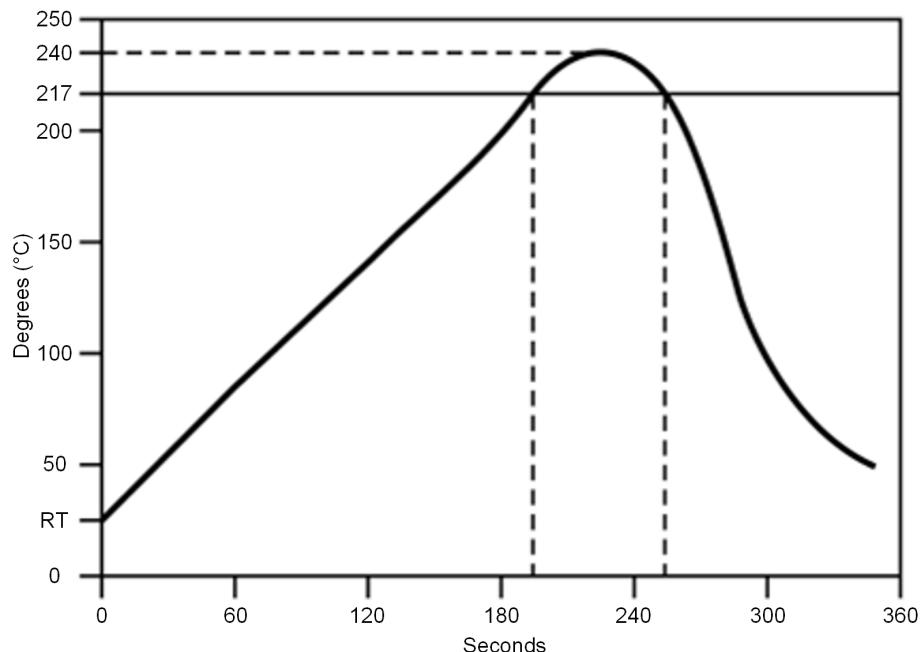

图 11-1. Temperature Profile for Evaluation of Solder Heat Resistance of a Component (at Solder Joint)
- Temperature measurement: Thermocouple $d = 0.1$ mm to 0.2 mm CA (K) or CC (T) at soldering portion or equivalent method
- Allowable reflow soldering times: 2 times based on the reflow soldering profile (see 图 11-1)
- Temperature profile: Reflow soldering will be done according to the temperature profile (see 图 11-1)